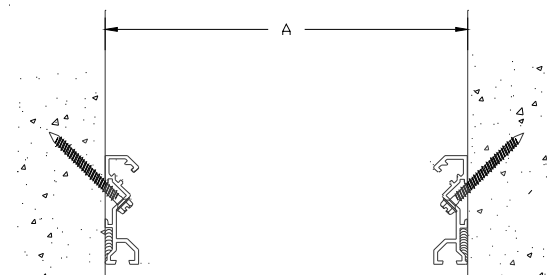

Figure 5
STEP 9. Repeat Step 4 through Step 8 for the corresponding opposite base member. Ensure that the base members are properly aligned with one another, see Figure 5.